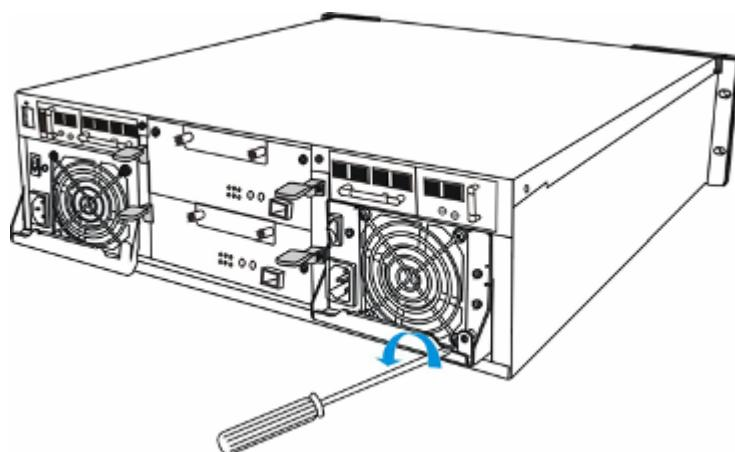

Figure 5-16: Removing the PSU Retention Screw
Step 3. **Remove the PSU retention screw** that secures the extraction handle to the chassis. (See *Figure 5-16*)